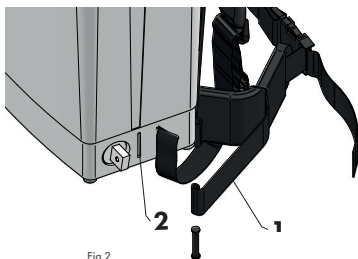
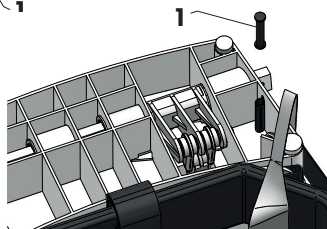

Fig.2
Fig.3
Push the hip belt ends (Fig. 2/pos. 1) through the holes in the tank (Fig. 2/pos. 2). Insert the belt pins into the ends of the hip belt (Fig. 3/item 1) found in the spare parts bag.